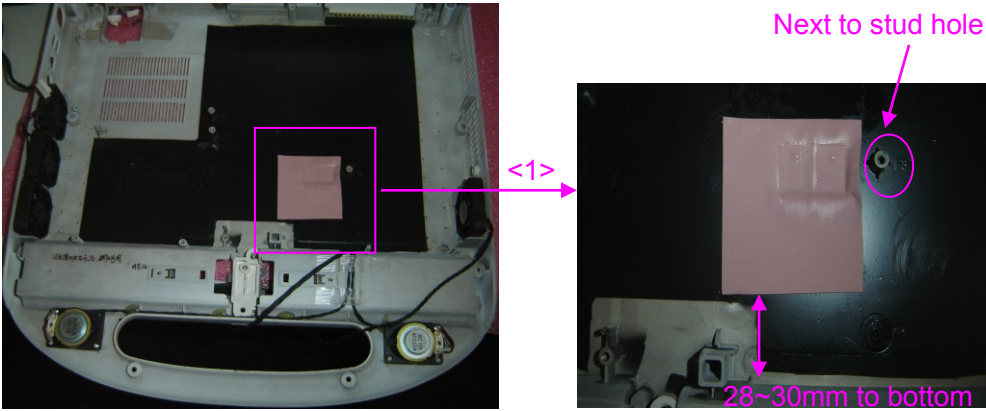

Figure 4-38
2. Plug the 4D board PCBA to the main board, fix the board with 3 M2.5X8 cross panhead screws, as shown in figure 4-38.